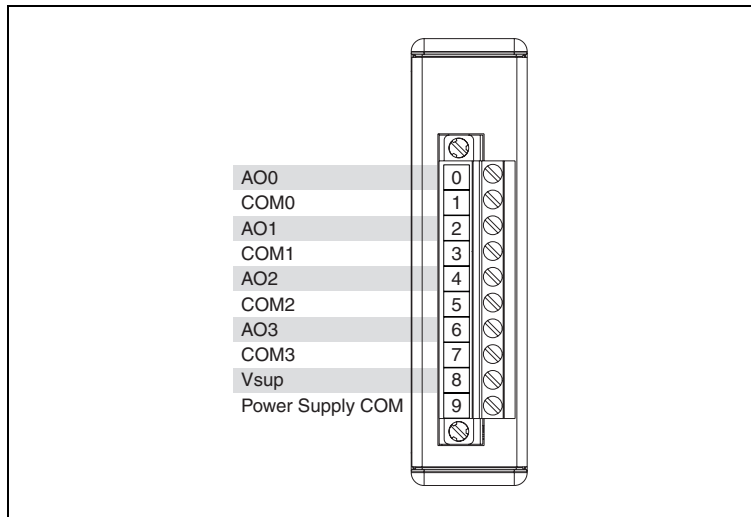

Figure 1. NI 9265 Terminal Assignments
2. Connect the DMM to the channel you want to verify. Connect the negative output of the DMM to COM and the positive output of the DMM to AO. Refer to Figure 1 for the terminal assignments of the NI 9265.